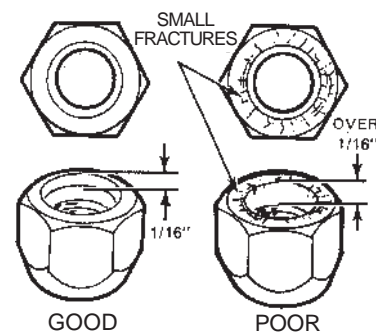

Fig. 19 Inspection of Rocker Arm Stud Nut
The positive stop rocker arm stud eliminates the necessity of adjusting the valve lash. However, to obtain the specified valve lash, it is important that all valve components be in a serviceable condition and installed and torqued properly. **Each stud nut should be removed and inspected for conditions shown in Fig. 19 when adjusting valve clearance.**
6. With the crankshaft in the positions designated in Steps 2, 3 and 4 remove the stud nut and inspect it for conditions shown in Fig. 19.